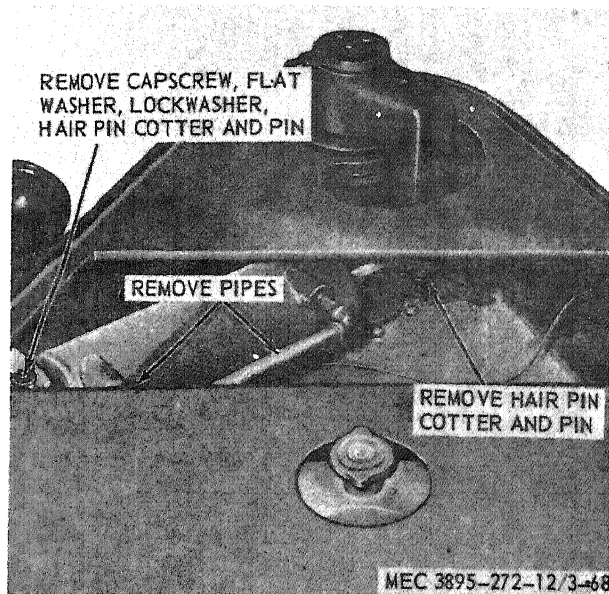

Figure 3-68. Steering cylinder, removal and installation.
- a. *Removal.* Remove the steering cylinder as instructed on figure 3-68.
- (1) Clean all parts with an approved cleaning solvent.
- (2) Inspect all parts for wear, defects, and damage. Replace worn, defective, or damaged parts.
- c. *Installation.* Install the steering cylinder in reverse of the instructions on figure 3-68.